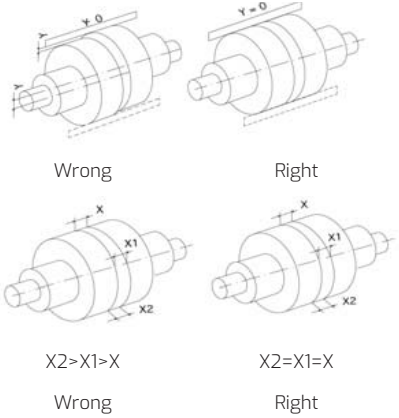

Figure 3: The Control of the Coupling Alignment in Horizontal and Vertical Planes
1. Angular Misalignment (Figure 3)
2. Parallel Axis Misalignment (Figure 3)